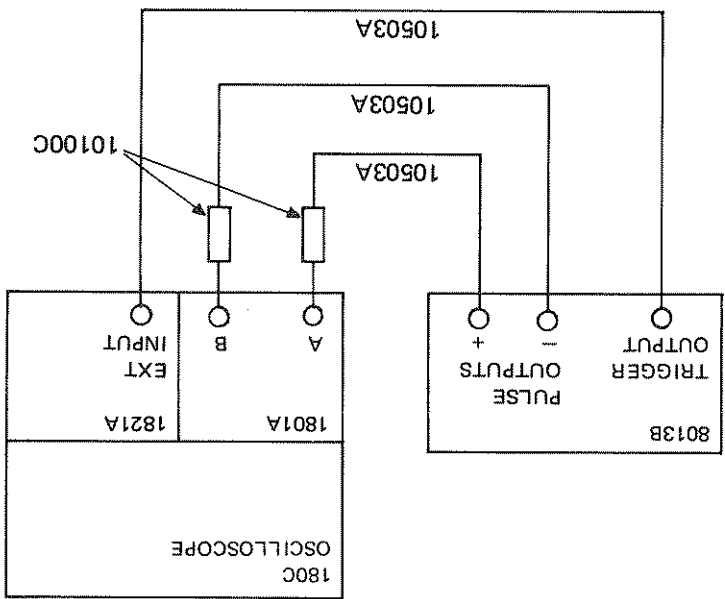

Figure 3-4. Initial control settings and test equipment
3-14 In this mode the 8013B requires no external signal to produce an output signal. Rate, delay, width, amplitudes etc. are all adjustable from the front panel controls. The initial control settings (also shown in Figure 3-1) are given to assist someone unfamiliar with the operation of the 8013B. The positive and negative pulse outputs (17) and (18) and the TRIGGER OUTPUT (21) should be connected to an oscilloscope using a 50 ohm system (as shown in Figure 3-4). The oscilloscope (an HP 180C mainframe with 1801A and 1821A plug-ins) should be set with the sweep time at 20µs/div and the sensitivity at 2V/div.